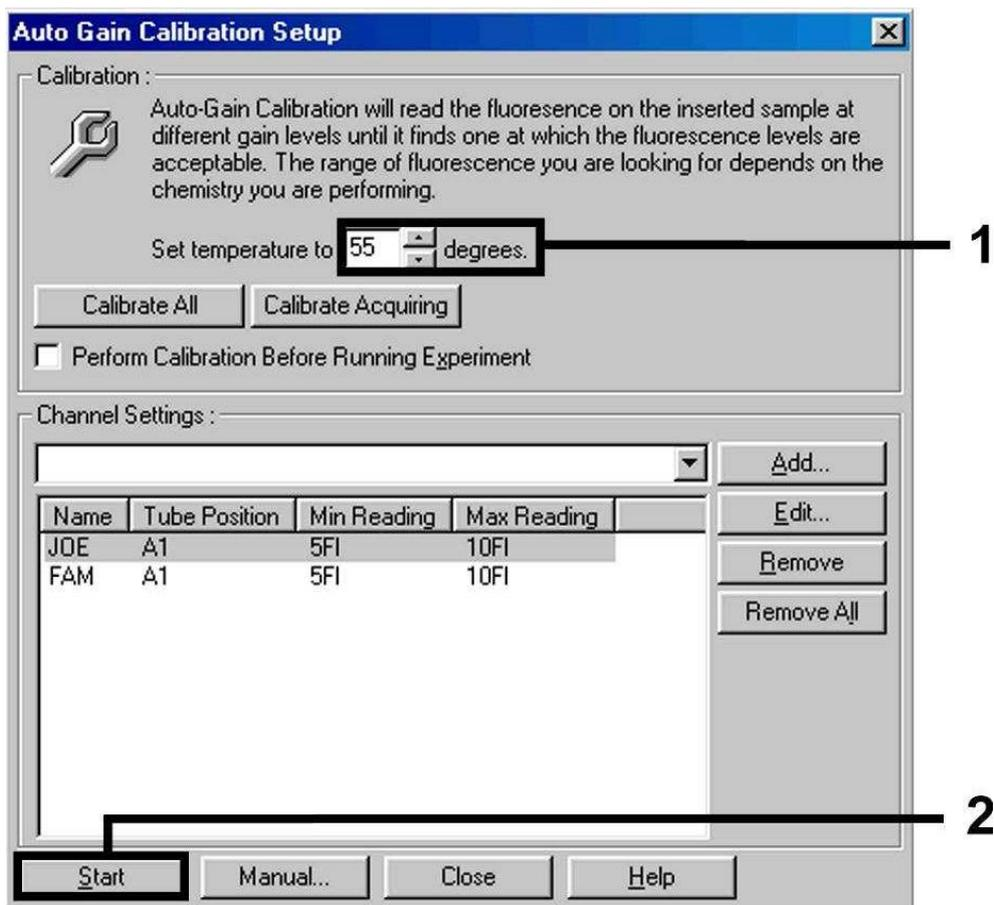

Fig. 7: Adjustment of the Fluorescence Channel Sensitivity.
- E. Adjustment of the Fluorescence Channel Sensitivity Fig. 7
The detection range of the fluorescence channels has to be determined according to the fluorescence intensities in the PCR tubes. This adjustment is done in the menu window *Auto Gain Calibration Setup* (activation in menu window *New Experiment Wizard* under *Calibrate*). Please set the calibration temperature to the annealing temperature of the amplification programme (see Fig. 7).